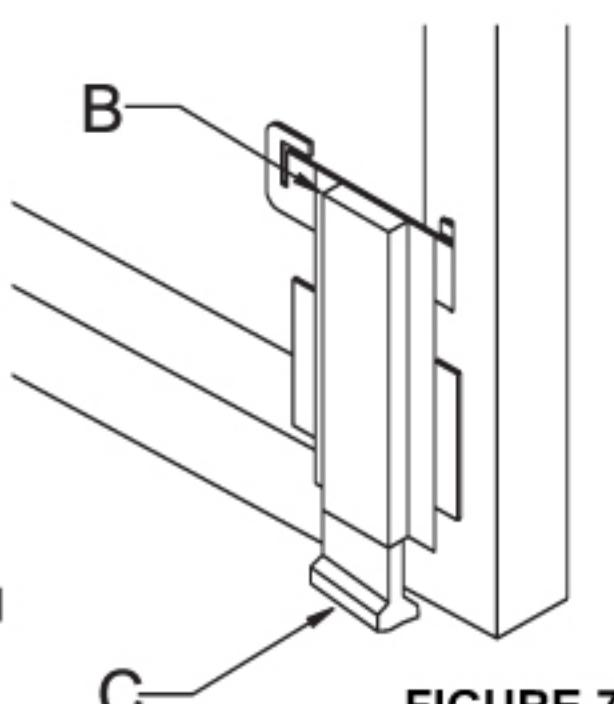

FIGURE 7
After obtaining approximately 1/2" clearance at floor, press nylon button guide down with thumb at (B) until hooks (C) snap into floor track. Guide will ride up and down in channel to compensate for uneven floor level, without disengaging door. Guide can be removed by prying up under nylon flange (Figure 7).